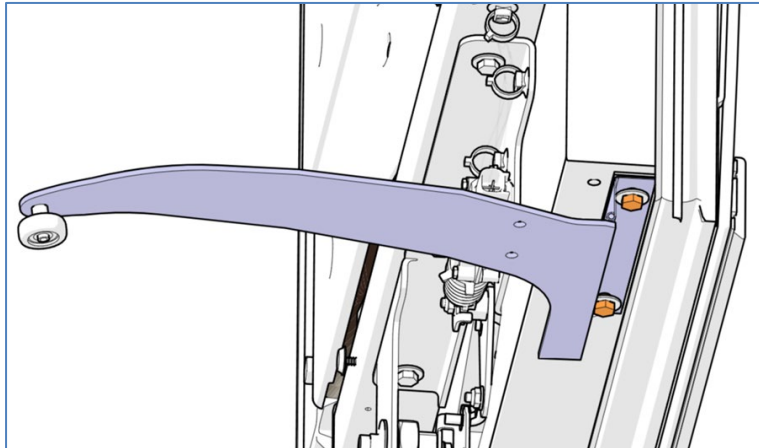

Figure 15
1. On the lower door arm, inspect loosen the bolts (Figure 15).